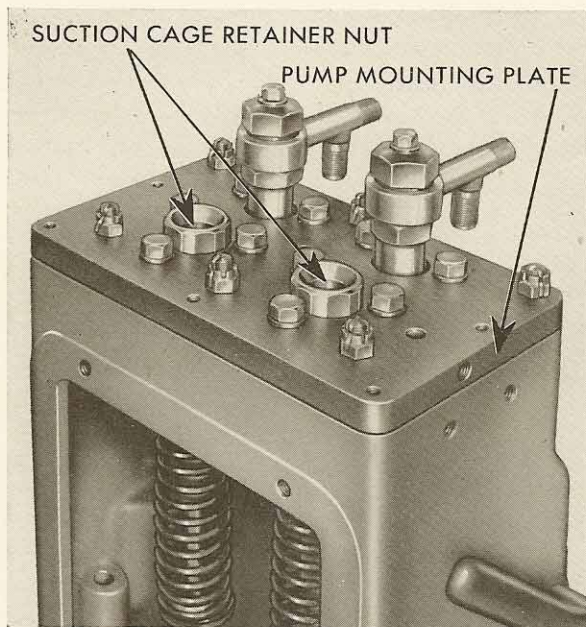
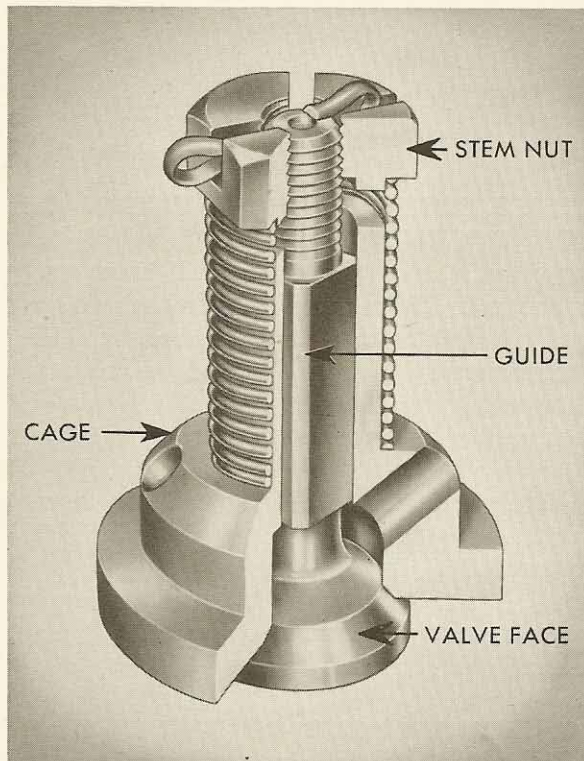

FIGURE 16-9
FIGURE 16-10
15. REMOVAL AND SERVICING OF THE SUCTION VALVES: Take off the cover and the suction valves will be exposed as shown in Figure 16-9. Unscrew the two suction valve retainer nuts and lift the assemblies out. Remove the cotter pin and unscrew the valve stem nut. Inspect the valve face and cage seat and grind or renew if necessary. Wash all parts thoroughly before assembly. When the stem nut is replaced it should be screwed down so that the total lift of the valve does not exceed $\frac{1}{16}$ inch. When these cages are assembled in the pump, be sure that the copper gaskets are in place under each cage. This cage assembly is shown in Figure 16-10.